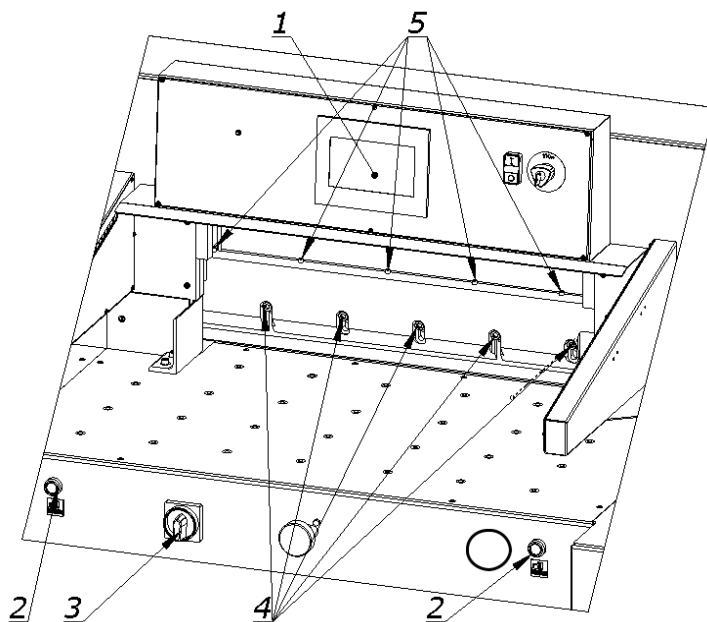

Figure 35.
8.1.2.9 Pressing the push buttons (2, fig. 35) at the same time, start the cutting cycle.
8.1.2.12. Unscrew the fixing screws (4, fig.35) so that the knife falls under its own weight on the base bar with its entire length.
8.1.2.13. Tighten the adjustment screws (5, fig. 35) as far as they will go, so that the blade of the knife is cut into the slat, approx. 0.3 mm.
8.1.2.14. Tighten the mounting screws (4, fig. 35)
8.1.2.15 Switch on the power supply of the electrical system by turning the main switch knob (3, fig. 35) to position "I".
8.1.2.16. Switch off the "knife change" function on the touchscreen (1, fig.35)
8.1.2.18. Turn off the power supply of the electrical system by turning the main switch knob (3, fig. 35) to the "0" position
8.1.2.20. Turn on the power supply of the electrical system by turning the knob of the main switch (3, fig.35) to position "I"